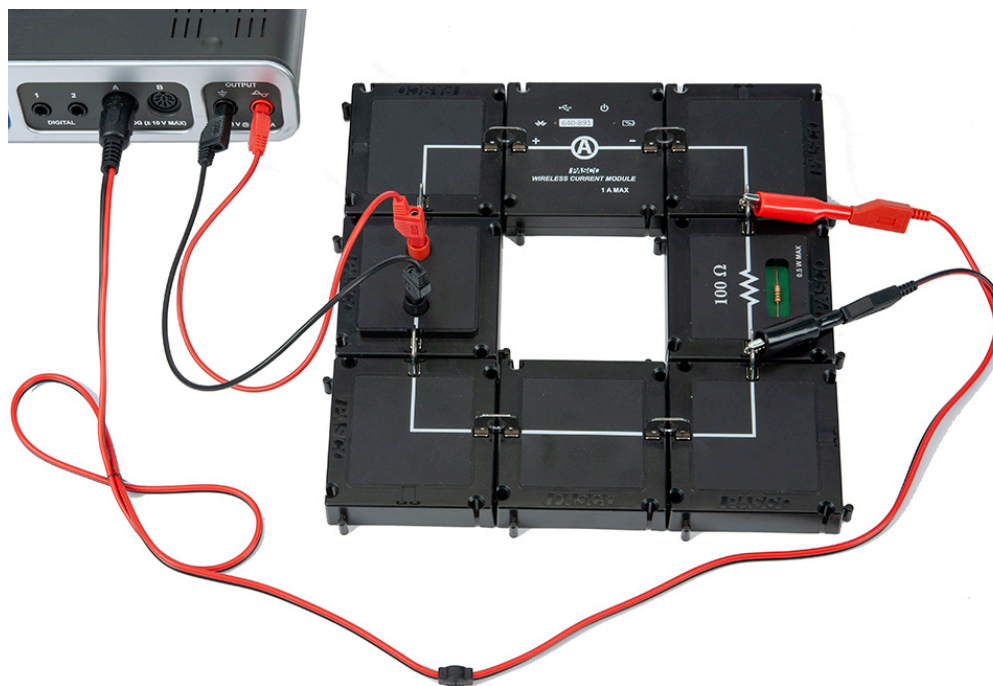

Figure 2: Ohm's Law Setup
2. Setup the circuit shown in Figure 2 using the $100\ \Omega$ resistor. Turn on the Wireless Current Module and connect it in the software.